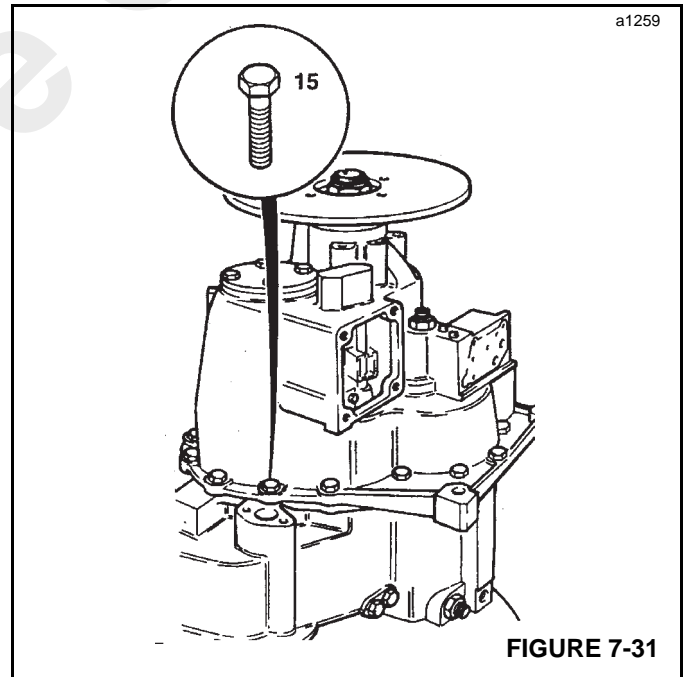

FIGURE 7-31
15. Assemble the two halves of the casing with bolts (15, Figure 7-31). Tighten to a torque of 56 Nm (42 lb-ft).